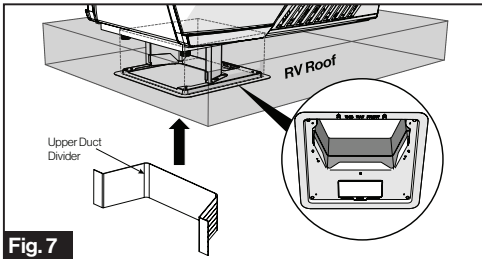

Fig. 7
**NOTE:** Make sure the upper duct divider is compressing the top foam on the base of the unit, and compress to doubled sided tape on the lower duct divider to ensure a positive retention. (Fig. 7)